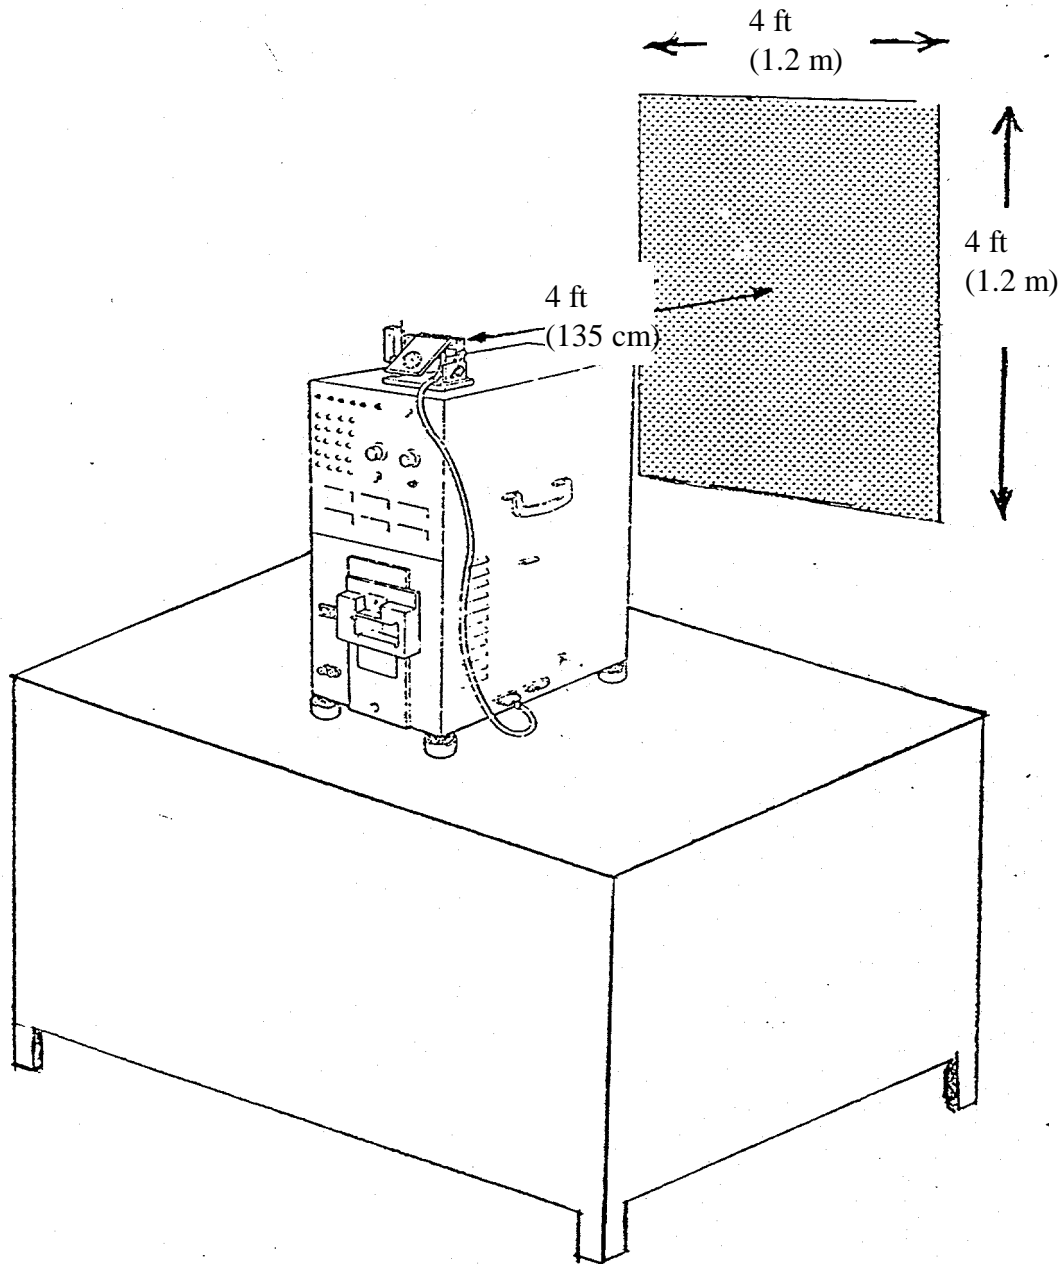

Fig. 1 Graywall setup
- b. Select an area where the graywall target can be secured to a wall which is perfectly flat. The area must be large enough to allow the testing equipment to be placed 4.5 feet (137cm) from the target (see Figure 1). The area must be free of any obstacles between the camera under test and the graywall.